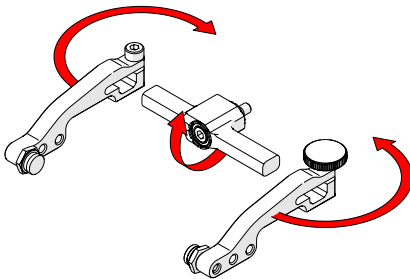

Fig. 120 - Flip yoke and reverse arms
3. Flip the yoke 180° and reverse the probe holder arms (Fig. 120).